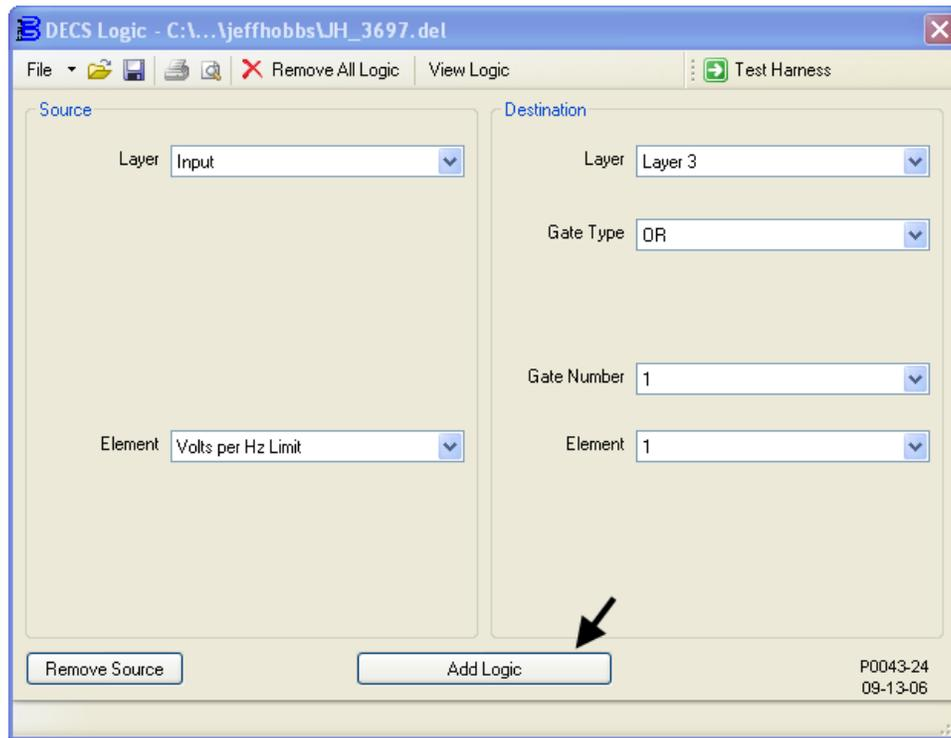

Figure 9-20. Addition of Layer3 InputBuffer.Volts per Hz Limit ---> Layer3.Or1.Input1
1. Figure 9-20 illustrates the DECS Logic window settings associated with this step. Connect the V/Hz Protection Active input buffer to input 1 of OR gate 1 on logic layer 3. In Table 9-2, this association is identified by “DESTINATION: Layer3 – InputBuffer.Volts per Hz Limit → Or1.Input1”.